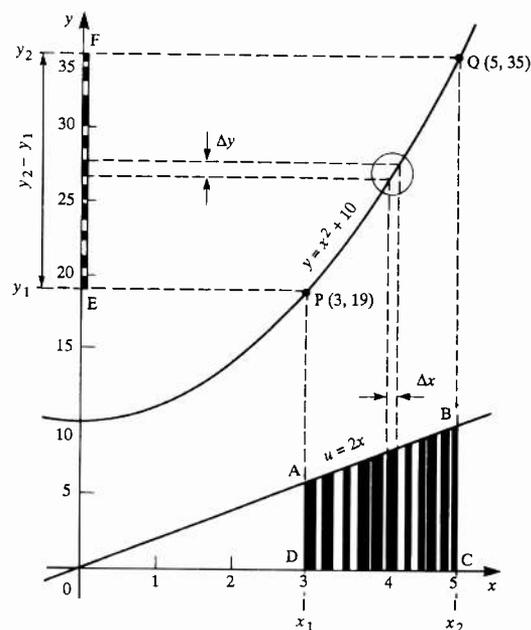
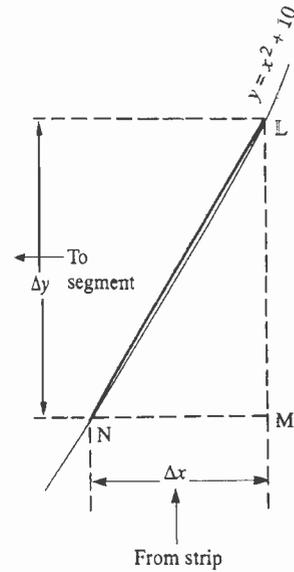

Fig. 1. The curve for $y = x^2 + 10$ (top) and the curve for its derivative (bottom).
Fig. 2. Enlargement of the circled part of Fig. 1.
Let's look at the relationship that exists between the curves of a function and of its derivative. Take as an example: $y = x^2 + 10$. This is the upper curve in Fig. 1. Below it is the curve for its derivative: $dy/dx = 2x$. The derivative is also a function and we call this function u : $dy/dx = u$. There is a region ABCD beneath the graph of u , from $x_1 = 3$ to $x_2 = 5$. The aim is to calculate the area A of this region. If the graph is a straight line, as it is here, the area is easily calculated by using the formula for a trapezium:
At this stage there are two equations, (1) for the total area ABCD and (2) for the total length EF. The final step is to link these together. Figure 2 shows how this is done. This is an enlargement of the part of the curve circled in Fig. 1.
Two approximations were made in the above discussion. First, the area of the strips was calculated as if they were rectangular, but they are not. Secondly, the gradient of the curve in Fig. 2 was calculated as if it is the same as the straight line LN, which it is not.
In words, the charge is the product of the current and the length of time for which it has been flowing. We can represent this as a graph (Fig. 3a) in which charge, being the product of current and time, is represented by the area beneath the curve. This idea can be extended to a varying current i since, for any short instant of time Δt , the accumulating charge Δq equals $i\Delta t$ (Fig. 3b); compare with the strips of Fig. 1.
In the earlier discussion of integration, the area under the curve (Fig. 1) was to be evaluated between x_1 and x_2 . Such an integral with limits is called a definite integral:
Note that c appears in both brackets and so cancels out. Consequently, when we are evaluating definite integrals, the constant of integration can be ignored. In Fig. 1 it can be seen that the value of c is 10, this being the y intercept of the curve $y = x^2 + 10$. However, it does not matter what it is. Giving c a different value merely shifts the parabola vertically up or down the page without affecting the length of EF.